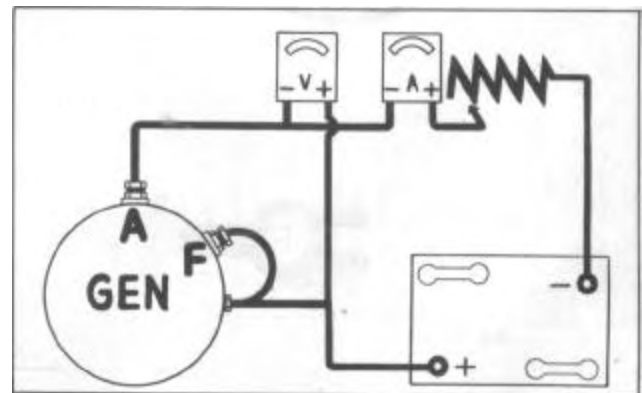

FIGURE 11
1. Connect an ammeter and battery in series with the armature terminal and frame, Figure 11.